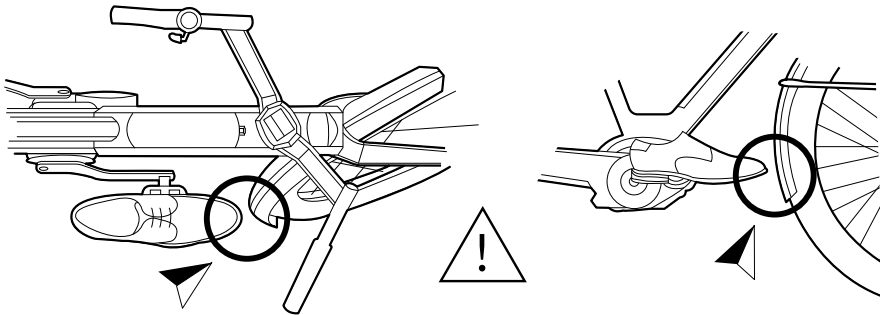

Figure 2. Risk of contact between the foot and the front wheel
- On some bikes, especially on small sizes, the wheel base is short and the front wheel is close to the pedals. Therefore there is a risk of touching the wheel or mud guard with your foot when you turn, especially at low speed (*Figure 2*). Do not pedal when you turn the handlebar at low speed. The level of risk depends on the size of your foot, the size of the cranks, the pedals and even the tire. Any modification of components can change this distance and cause contact and a fall. It is therefore best to get advice from your retailer if you wish to replace any parts.